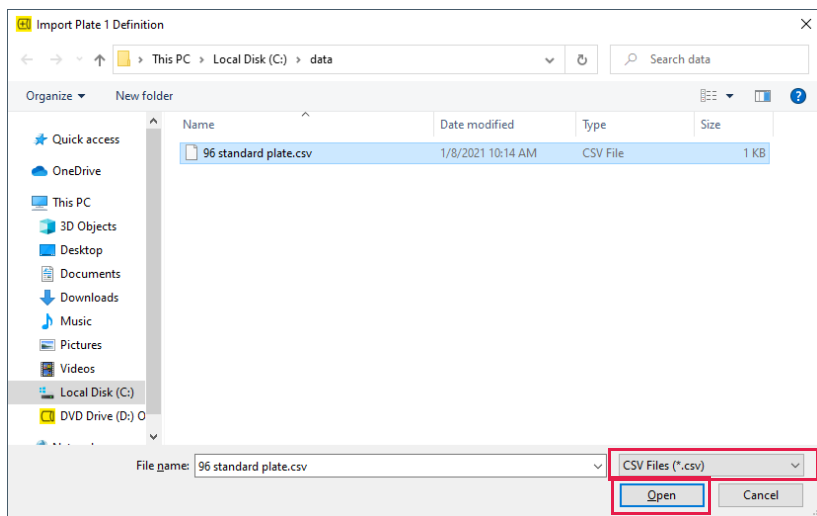

Figure 6-24: Import Plate Definition Window
- In the **Import Plate Definition** window (see Figure 6-24), select the plate definition (.csv), and click **Open**.